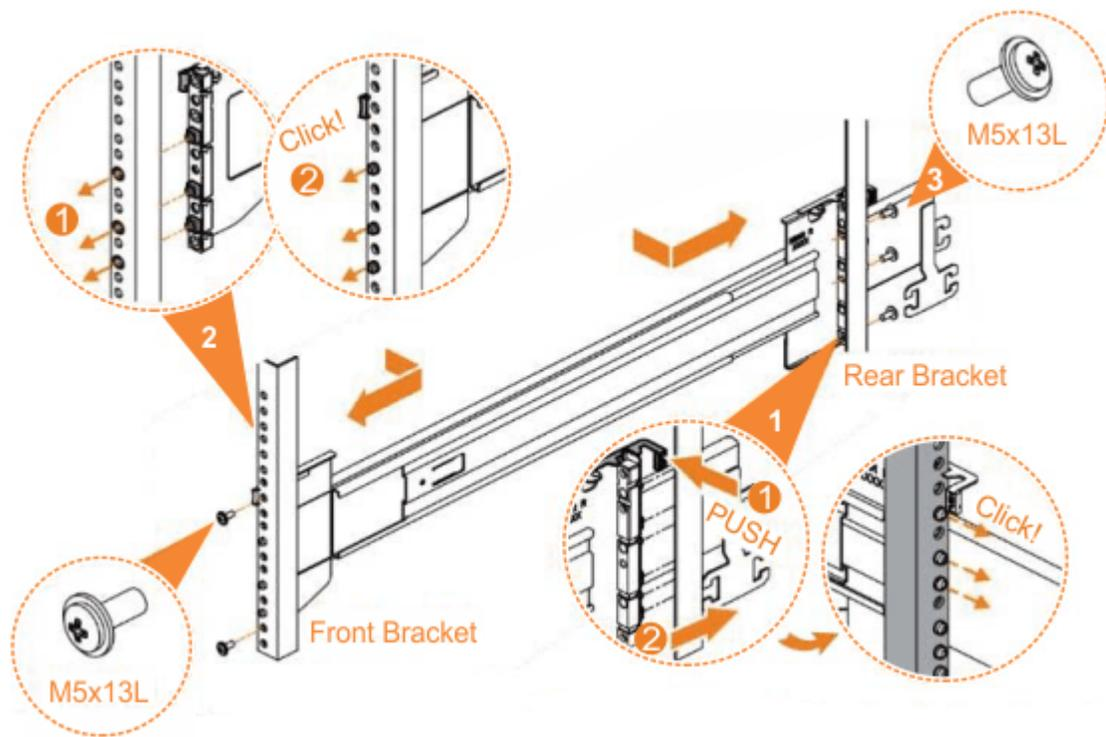

Figure 58. Installing the rail assembly to the rack frame
6. Use the M5 screws to install the outer rail member and bracket assembly to the rack, as shown in Figure 58 on page 60.